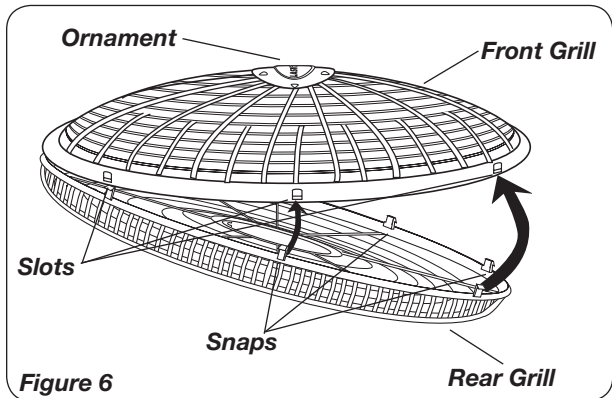

Figure 6
7. With fan head in upright position, align **Ornament** of **Front Grill** so it is horizontal. By starting with the top of the grill and working down, insert **Snap**s on **Rear Grill** through **Slots** in **Front Grill**. (Figure 6)